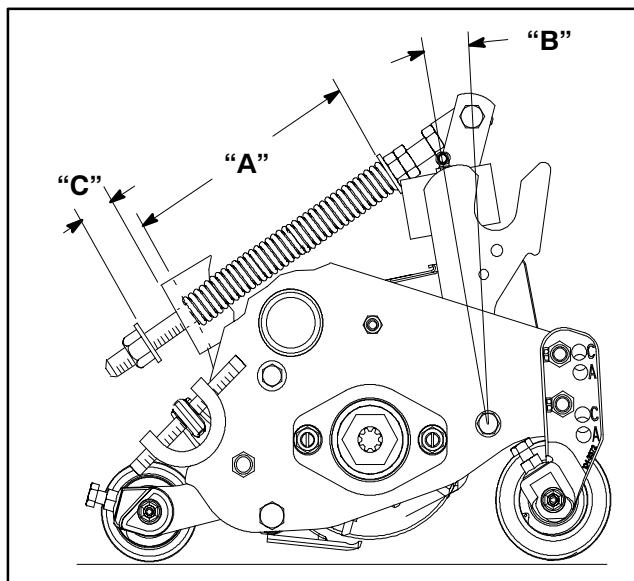

Figure 13
The Turf Compensation Spring (Fig. 13), connecting carrier frame to cutting unit, controls the amount of fore-aft rotation available.
1. Tighten lock nut on rear of spring rod until the gap (C) between rear of spring bracket and front of washer is 1.25" (32 mm) (Fig. 13).
2. Tighten hex nuts on front end of spring rod until the compressed length (A) of spring is 6.25" (328 mm) (Fig. 13).
**NOTE:** As compressed spring length (A) DECREASES, weight transfer from front roller to rear roller INCREASES and carrier frame/cutting unit rotation angle (B) DECREASES.